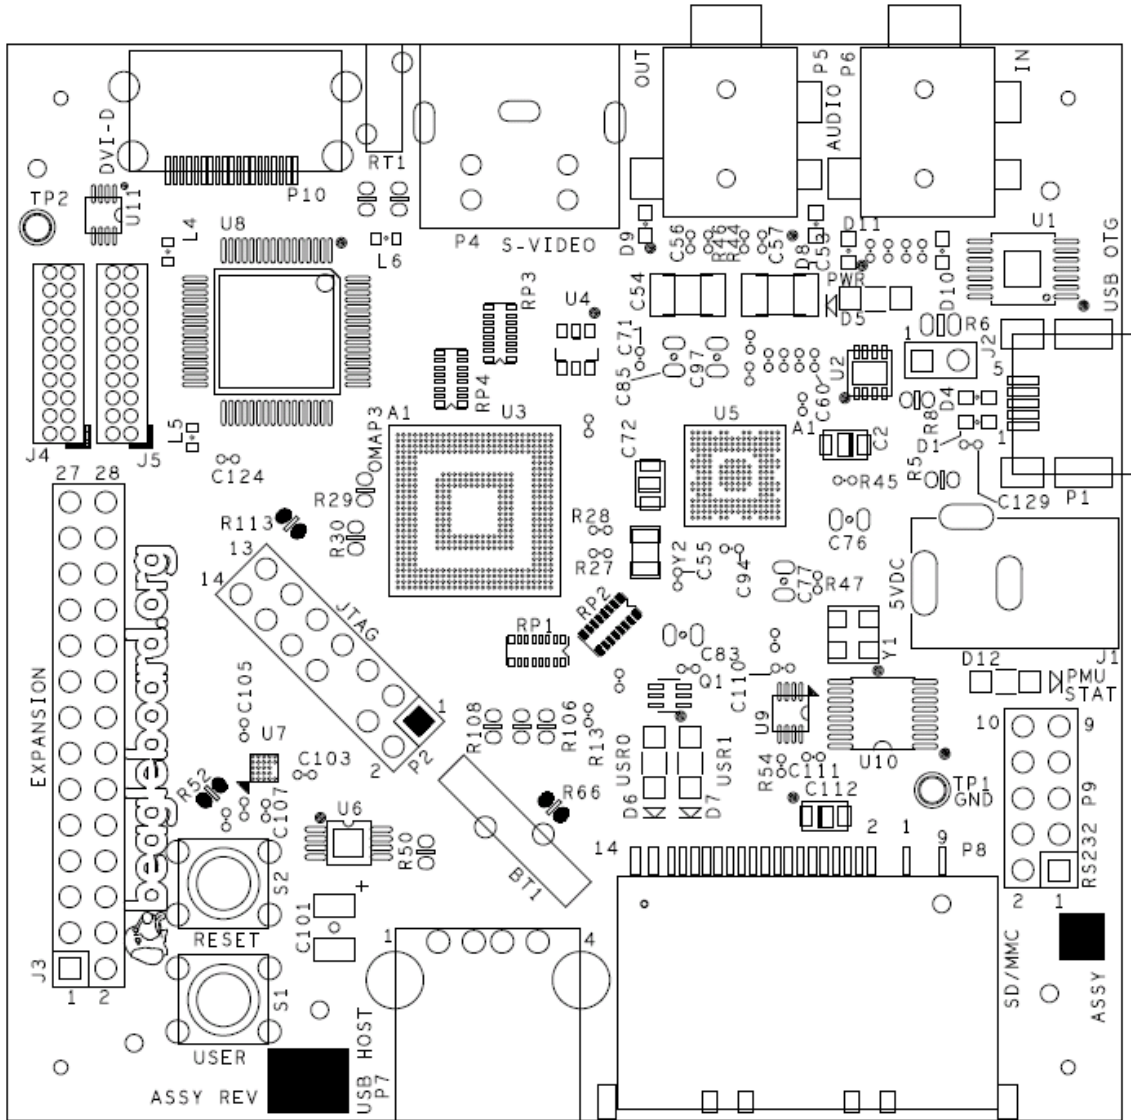
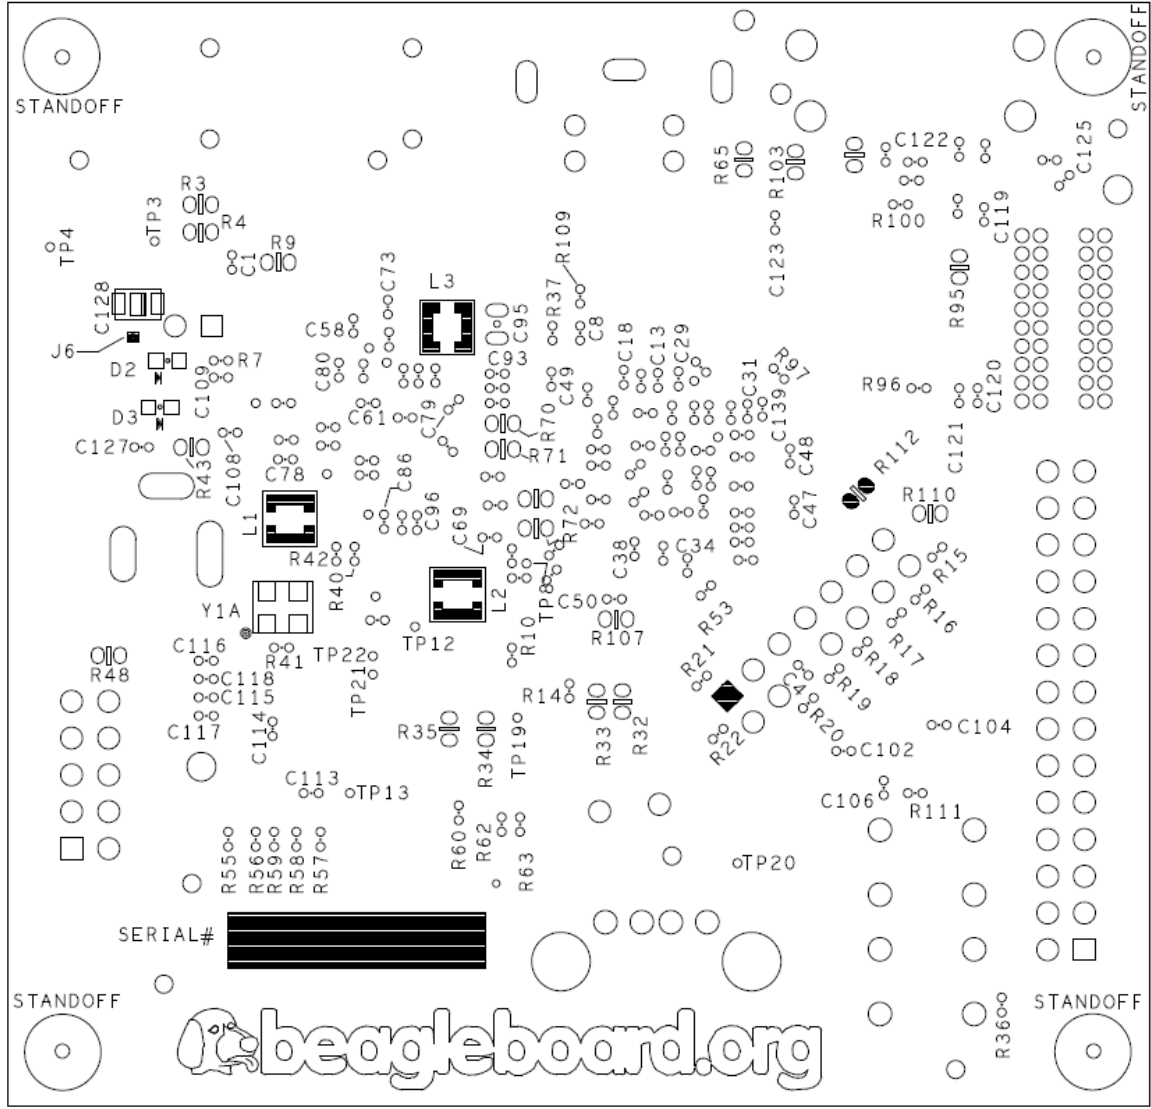

Figure 84. BeagleBoard Top Side Components
Figure 85. BeagleBoard Bottom Side Components
3. You must have a Null Modem cable to connect to a PC. This results in the TX and RX leads being swapped, connecting the TX of the BeagleBoard to RX of the PC and RX of the BeagleBoard to TX of the PC. This cable also must be a female to female cable as the connectors on the BeagleBoard and PC are male. **Figure 84** shows the DB9 male connector and **Figure 85** shows the Null Modem Cable.
Figures 85 and Figure 86 contain the bottom and top side component locations of the BeagleBoard.